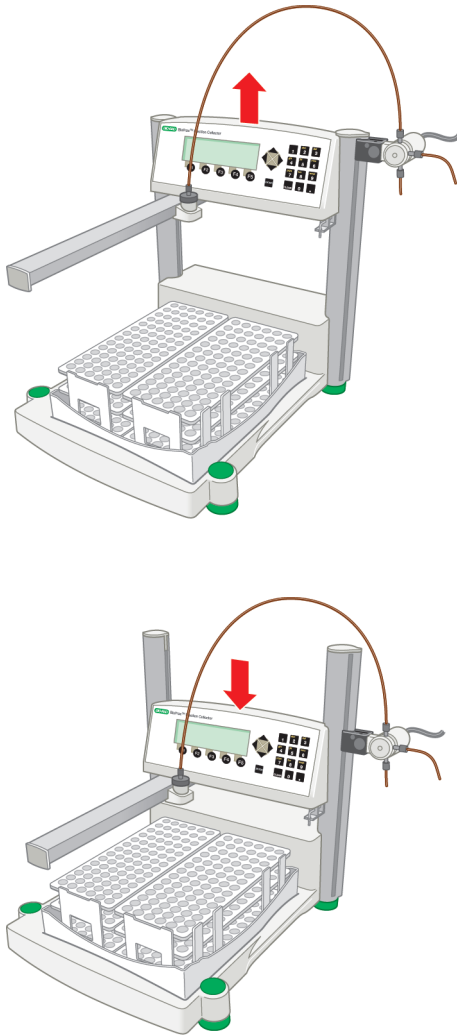

Fig. 12. Height adjustment.
2. Move the control module to the desired height (Figure 12).